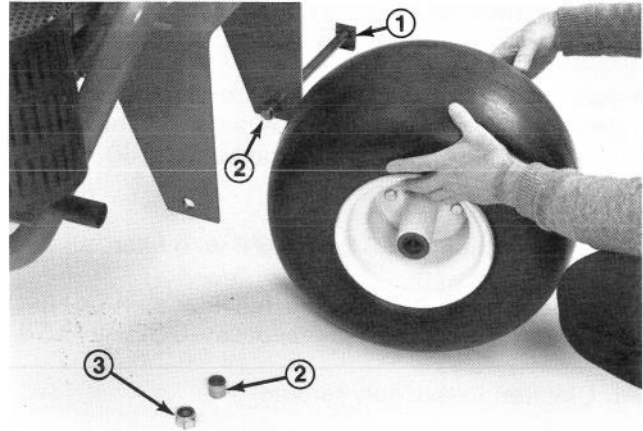

Figure 2
2. Install the rear wheel in the castor fork. Insert the bolt into one of the mounting holes, install a spacer and slide the bolt through the wheel (Fig. 2).
3. Install another spacer onto the bolt and route the bolt through the remaining castor fork mounting hole (Fig. 2).